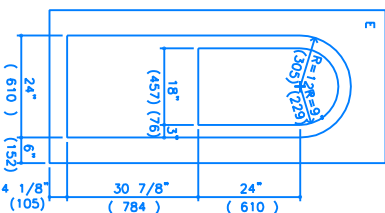

FIGURE 3
- 2) Cut out door from one piece E as shown (Fig 3). Remember that the cut out door is again the cut out for the window. When cutting out the window, drill a 3/8" hole to start your jig saw.